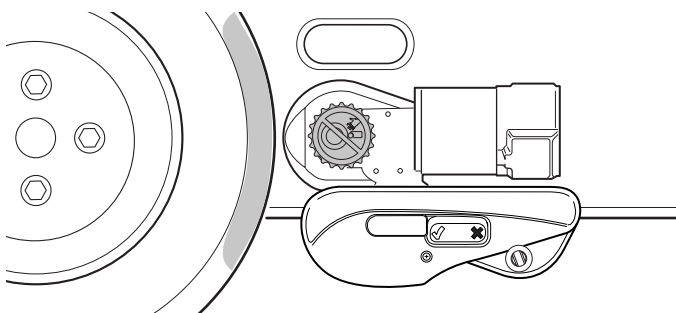

Fig. 32
- The gap between the drive rollers and tyres is 20 mm on both sides (Fig. 32). See Kapitel 6.1 to check the correct gap between the tyres and the drive rollers